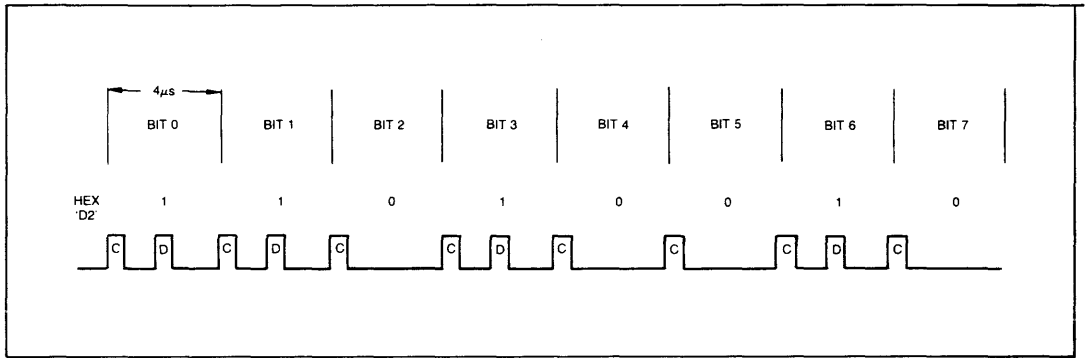

FIGURE 1. FM RECORDING.
The 1771 has been designed to be compatible with the IBM 3740 standard. This single-density Frequency Modulated (FM) recording technique, records a clock bit between a data bit serially on each track. Figure 1 illustrates how a HEX "D2" is recorded. Note that when the data bit to be written is zero, no pulse or flux transition is recorded. For the 8" drive, there are 77 tracks, with 26 sectors on each track. Each sector contains 128 bytes of data. Although there is no "standard" format for the mini-floppy, most manufacturers utilize either 35 or 40 tracks per side, with 16 sectors of 128 bytes each per track. Both the 8" and 5½" formats must be soft-sectored, i.e., there are no physical holes to denote sector locations. The hard-sectored disk has been losing popularity, mainly due to the fact that the sector lengths cannot be increased.